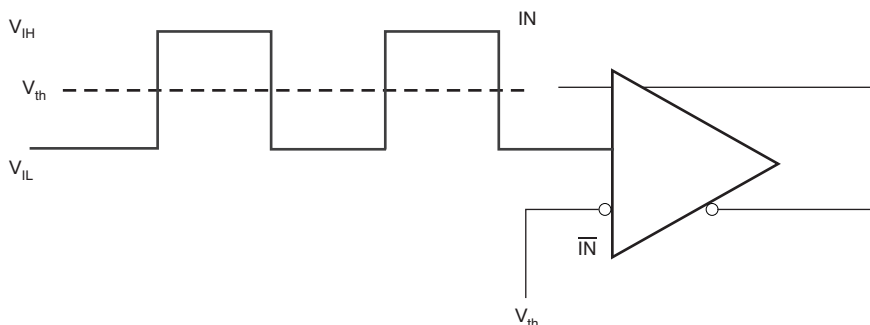
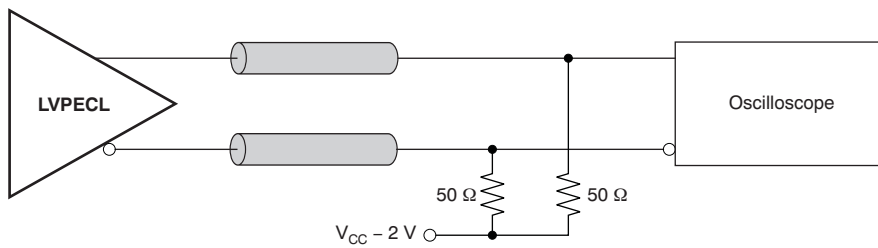
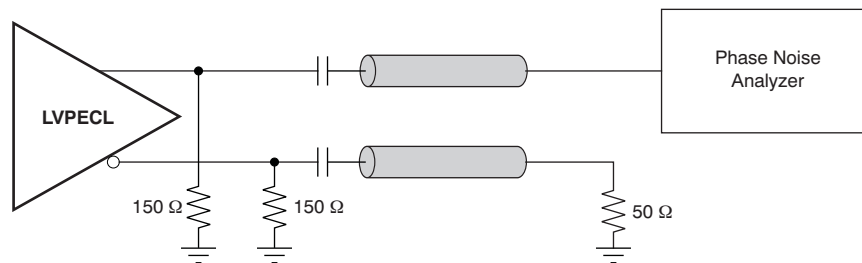

Figure 3. DC-Coupled LVCMOS Input During Device Test
Figure 8. LVPECL Output DC Configuration During Device Test
Figure 9. LVPECL Output AC Configuration During Device Test
(1) Figure 8 and Figure 9 show dc and ac test setup.
(2) Internally generated bias voltage (V_{AC_REF}) is for 3.3-V operation only. It is recommended to apply externally generated bias voltage for $V_{CC} < 3.0\text{ V}$.
This section describes the function of each block for the CDCLVP1212. Figure 3 through Figure 9 illustrate how the device should be set up for a variety of test configurations.